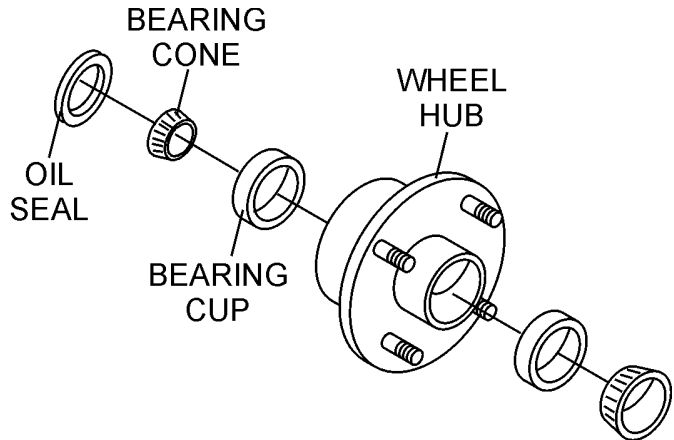

Figure 21. Wheel Hub and Bearings
1. After every 3 months of operation, remove the hub dust cap and inspect the wheel bearings (Figure 21). Once a year, or when required, disassemble the wheel hubs remove the old grease and repack the bearings forcing grease between rollers, cone and cage with a good grade of high speed wheel bearing grease (**NEVER** use grease heavier than 265 A.S.T.M. penetration ("No. 2.))
2. Fill the wheel hub (Figure 21) with grease to the inside diameter of the outer races and also fill the hub grease cap. Reassemble the hub and mount the wheel. Then tighten the adjusting nut, at the same time turn the wheel in both directions, until there is a slight bind to be sure all the bearing surfaces are in contact.